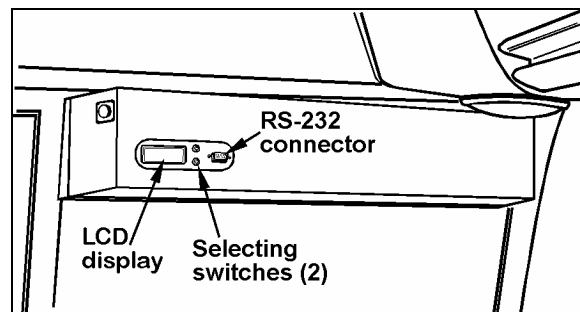

FIGURE 25: DESTINATION SIGN – ELECTRONIC 23123
2. Insert projection at end of "BOBRICK" key into rectangular hole in cover (Fig. 25). Push straight in. While holding "BOBRICK" key in, turn cover counterclockwise about 1/8 turn.